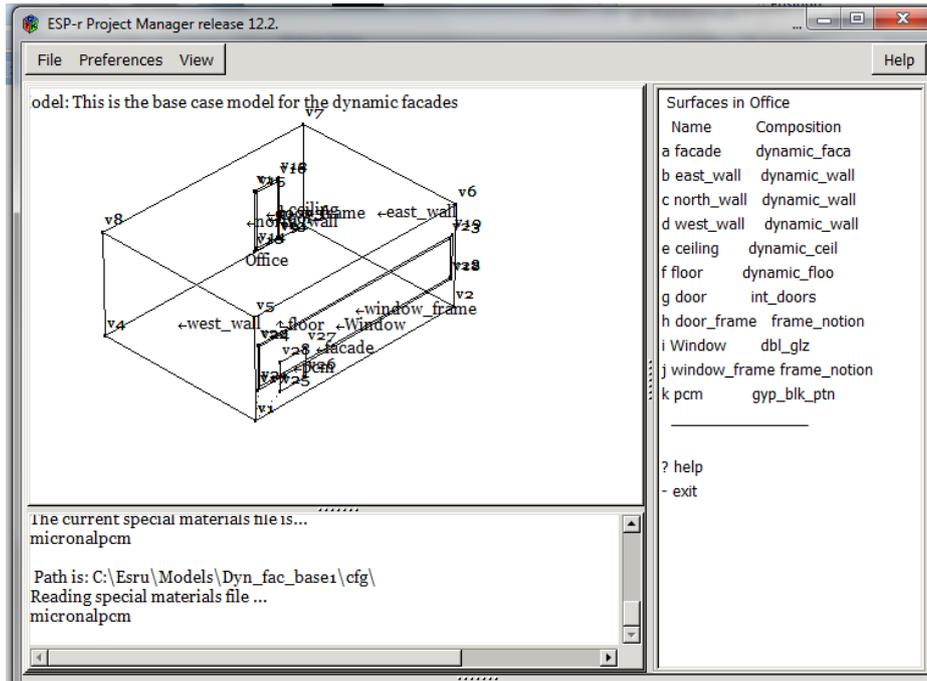

Figure 12
Step 12: The user then must choose which area of the room they wish the phase change material to be located in, for our case it was the facade wall but it could be the ceiling or walls etc, so click on the desired location (figure 12).